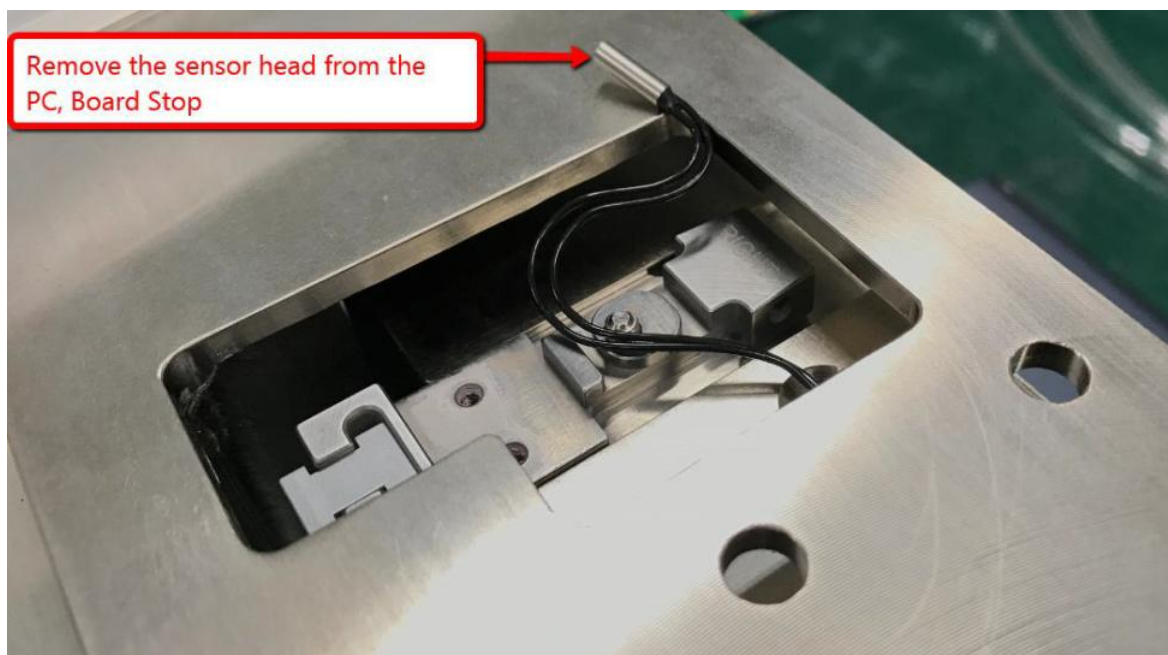

Figure 4 PC, Board Stop
4. Remove PIP sensor head from PC, Board Stop as Figure 4